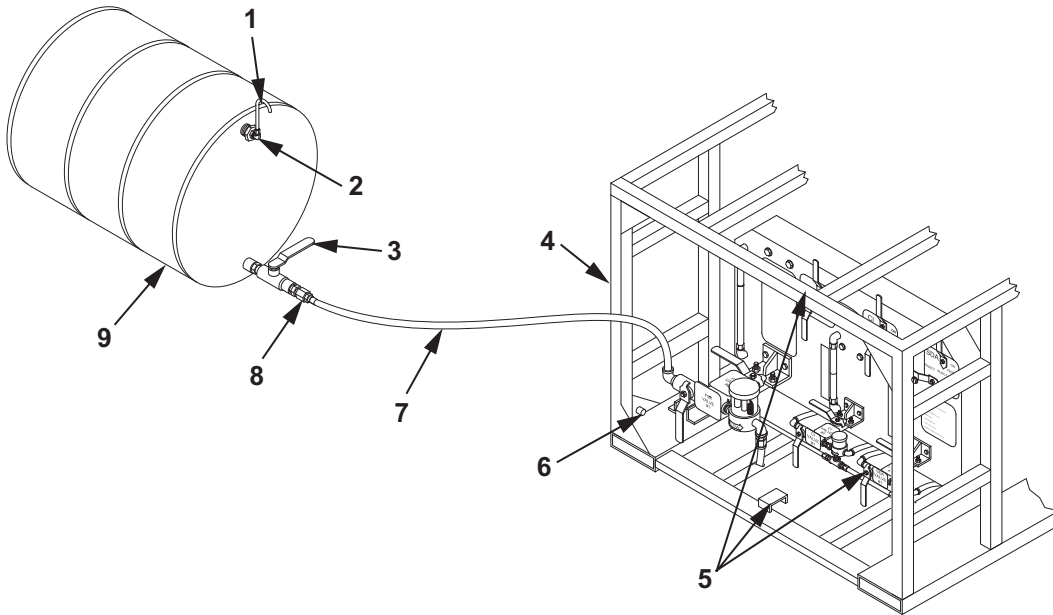

Figure 3. Injecting Additives Using Drums.
7. Place FSII additive shutoff valve (Figure 3, Item 3) on the FSII supply drum (Figure 3, Item 9) in the off position.
8. Disconnect the end of 3/4 in. flex line (Figure 3, Item 8) from the FSII additive shutoff valve (Figure 3, Item 3).
9. Install the FSII 3/4 in. flex line (Figure 3, Item 7) in the frame clips (Figure 3, Item 5) on the fuel additive injection assembly frame (Figure 3, Item 4).
10. Connect end of the FSII 3/4 in. flex line (Figure 3, Item 8) to the storage connector (Figure 3, Item 6) on the fuel additive injection assembly frame (Figure 3, Item 4).
11. Upright the FSII drum and remove 2 in. vent/dryer (Figure 3, Item 1) from drum bung hole (Figure 3, Item 2). Store in additive injection assembly frame tool box.